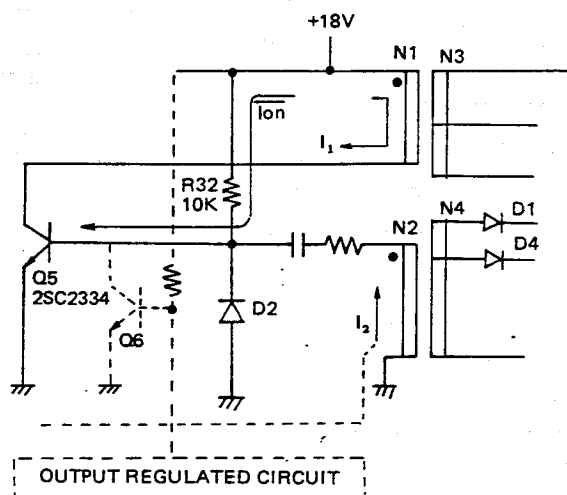
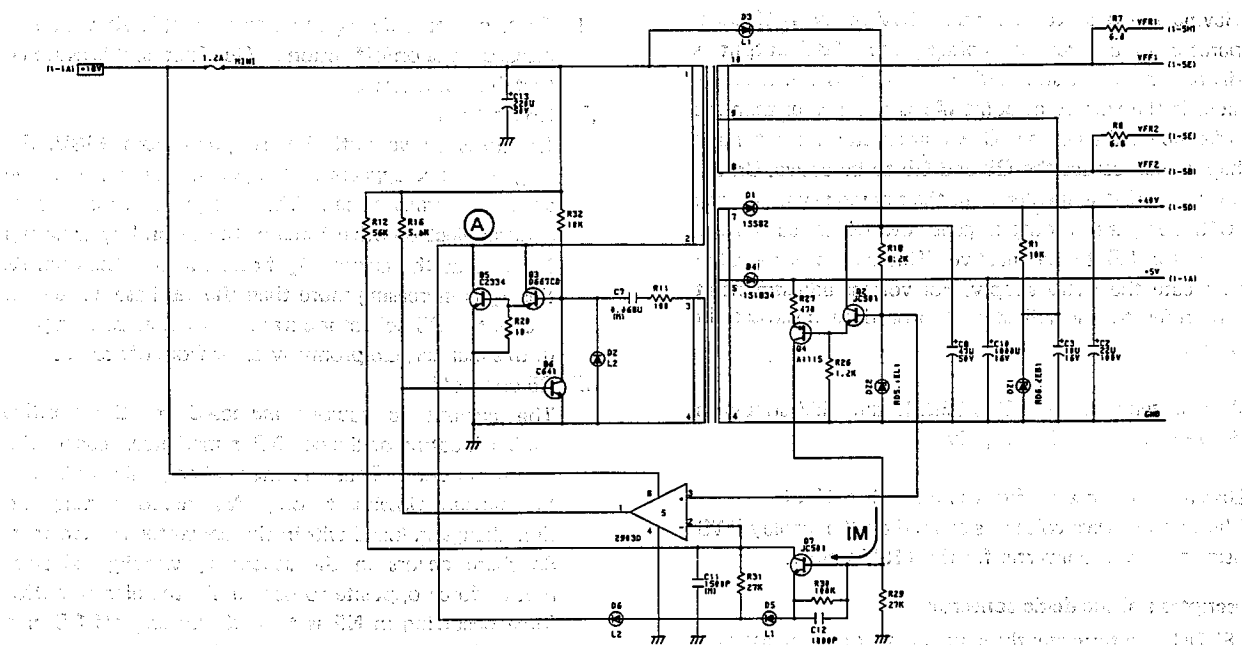

Fig. 15-29
Fig. 15-30
- (1) Having the positive side input (10V of the IC18 comparator as a reference voltage, the +18V output is divided by a resistor and connected to the negative side. If the voltage at point (A) is not greater than the reference voltage, the IC18 comparator output turns high which causes the Q8 and Q5 to be active. On the contrary, if it is greater than the reference voltage, the IC18 comparator output goes low which causes the transistor Q5 to be inactive. This action is repeated to create the +18V supply. For voltage adjustment at (A), refer to the adjustment procedure discussed in Section 17.
- (2) With a zener diode (RD6.2EB2), the +5V supply is derived from the +18V supply.
- (3) Display drive power (Fig. 15-29 and Fig. 15-30)